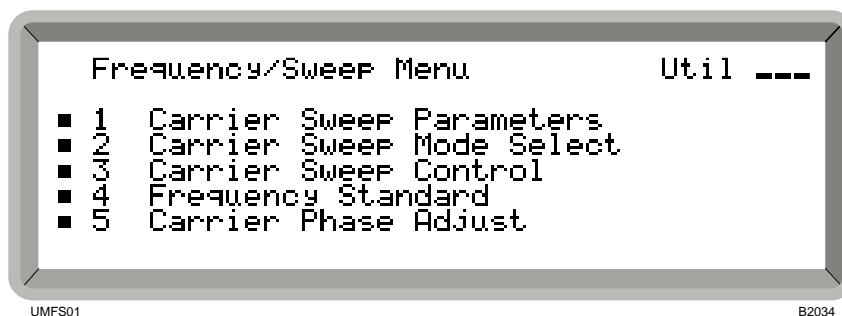

Fig. 4-10 Frequency/sweep menu
- (2) Use the [NEXT] and [PREV] keys to move around the menu.
- (3) Highlight *Frequency/Sweep* again and press [SELECT]. This causes the 2nd-level *Frequency/Sweep Menu* shown in Fig. 4-10 to be displayed.